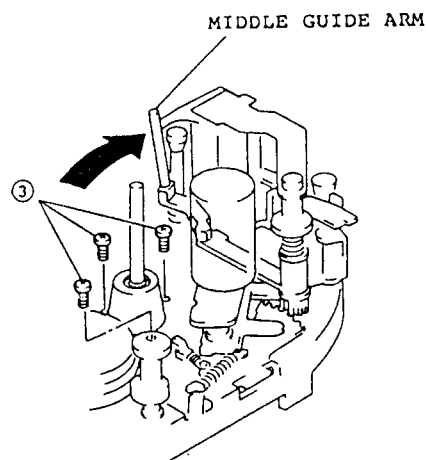

Fig. 2-66
3. Remove three (3) screws holding the capstan motor while moving the middle guide arm in the direction of the arrow. (See Fig. 2-66)